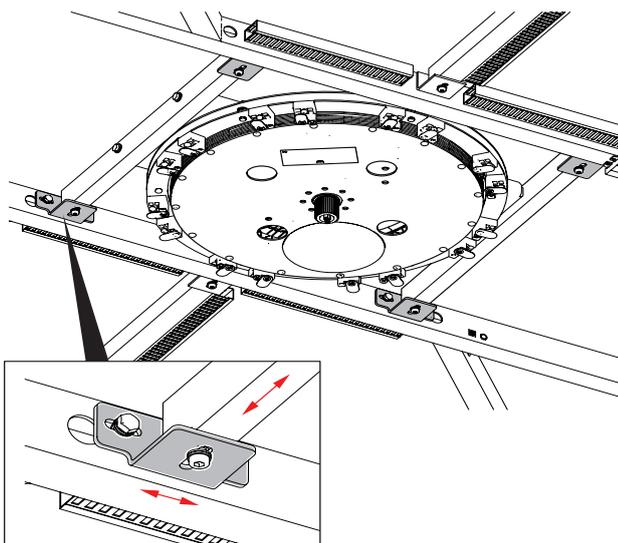

Fig. 80 Mounting screws and angle brackets
1. Slightly loosen the mounting screws and angle brackets (Fig. 80) of the operator (1).
6. Tighten the angle bracket of the operator (Fig. 80). Observe the screw tightening torques.
Tighten the mounting screws of the operator (Fig. 80).